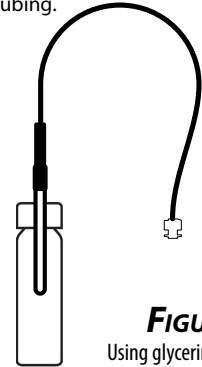

FIGURE 2
4. Insert the probe (TEMP-UL-S, TEMP-L-S, TEMP-L-W, TEMP-H-S, TEMP-H-W) through the hole in the cap and into the bottle until it reaches the probe's black heatshrink tubing. Only the stainless steel portion of the probe/tip should be inside the tube. (Figure 2.)